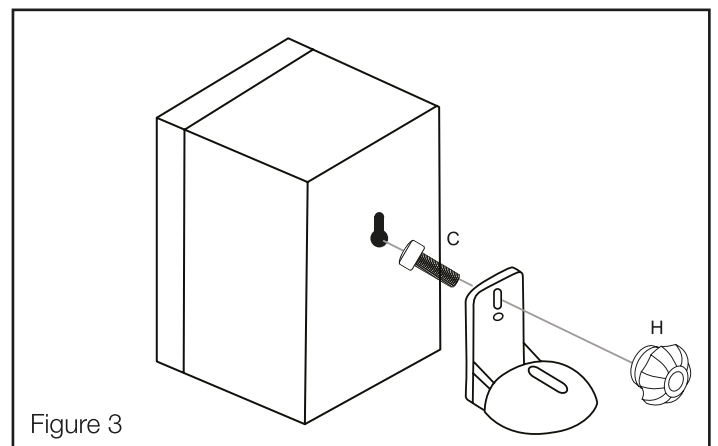

Figure 3
1. If your speakers have a keyhole slot on the back you will be able to fix your speaker plate without drilling into your speaker (see Figure 3).
2. Insert the keyhole fixing bolt (C) through the hole of the speaker plate (make sure the thread of the bolt faces out to the back of the speaker plate). Loosely tighten with keyhole fixing knob (H).
3. With the speaker plate attached, insert the head of the keyhole fixing bolt (C) into the keyhole slot and slide upwards to lock into place. You can now turn the keyhole fixing knob (H) to tighten the bolt into position.